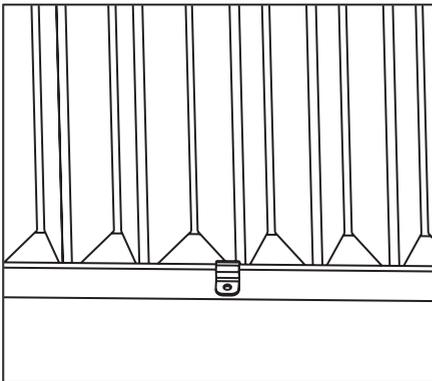
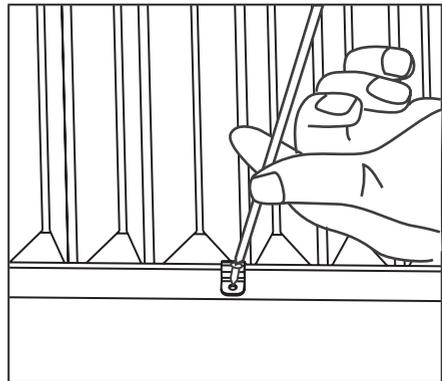

Fig.7
Fig.8
4. Place the frame lock between the frame extensions and the window sill as shown (Fig.7). Drive 3/4" (19 mm) locking screws through the frame lock and into the sill(Fig.8).